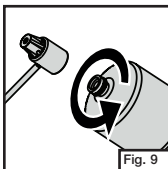

Fig. 9
- Remove plastic cap from top of propane bottle and screw propane bottle into regulator hand tight. (Fig. 9)